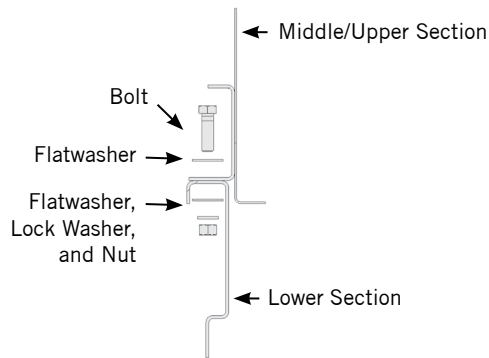

Figure 5. InterLok™ System Hardware Detail
4. Fasten the hardware between the upper casing and lower section per **Figure 5**.
5. Bolt the middle section in place as illustrated in **Figure 5** on **page 5**, using a 3/8" bolt and flat washer.